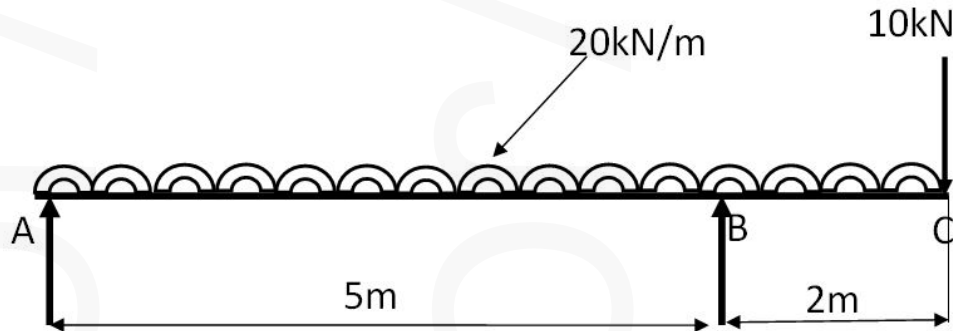

Figure 5
- 16 Analyse the overhanging beam shown in fig:5. Draw the shear force diagram and bending moment diagram shown all salient points including point of contraflexure. (14)